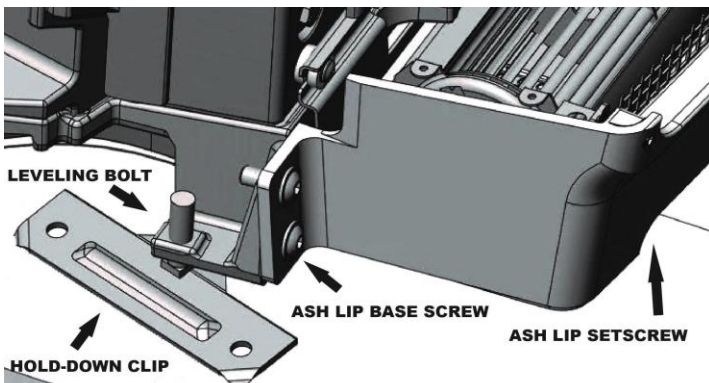

Figure 6 – Pallet Mounting Clip Detail (Left Front Shown - Façade and Ash lip Removed)
**Step Two:** Remove the Clydesdale from the pallet (see Figure 6).
Locate the four mounting clips attached to the leveling bolts (two in the front and two in the back) which secure the insert to the shipping pallet. Remove the lag bolts and clips with a 1/2" wrench. The front two clips are under the Facade (see figure 6). Removing the facade and ash lip will ease clip removal and handling the insert. **When working on or around enamel parts handle them with care.**
**Step Ten:** Reinstall the ash lip by reversing step 2 subpart 1 (see figure 6). The rear of the ash lip will fit against the gasket under the door. This is a seal to prevent ashes from falling into the blower area. Be careful with enamel parts. Ash lip may be tight fitting and require some downward force to get the front to drop in.